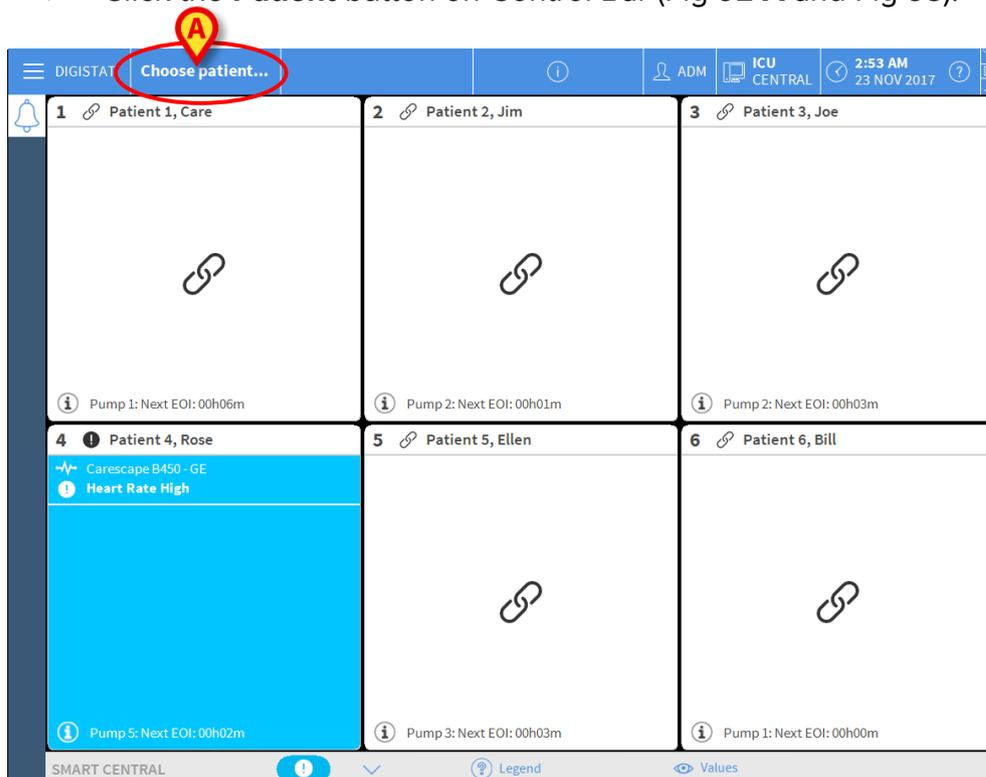
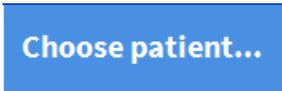

Fig 92
Fig 93
- Click the **Patient** button on Control Bar (Fig 92 A and Fig 93).